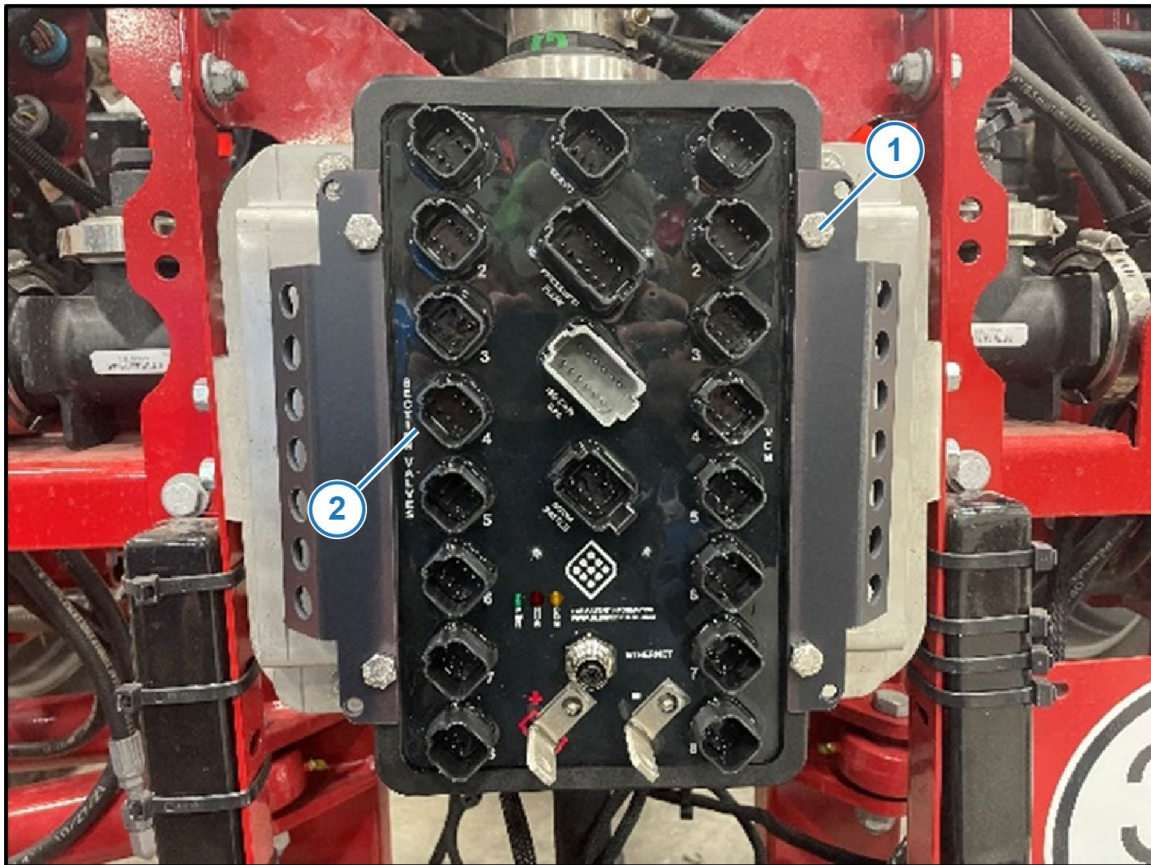

Figure 4 — Envelop Hub Installation
5. *Figure 4:* Insert 5/16" x 2 1/4" bolts included with Envelop Hub through strain relief bracket holes (1), through Envelop Hub (2) mounting holes, and attach to universal bracket installed in previous step with included flange nuts.